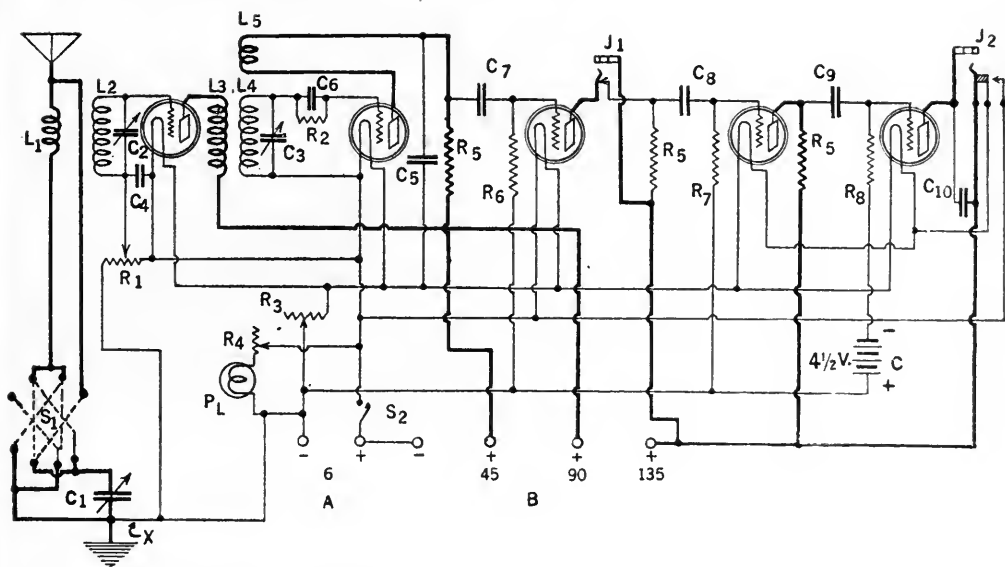

FIG. 1
**T**HE circuit is diagrammed in Fig. 1. The coils  $L$  are all honeycombs.  $L_1$  is the antenna primary, and  $L_2$  secondary inputting to the r. f. tube.  $L_3$  functions as the primary of the radio-frequency transformer.  $L_4$  is the r. f. secondary in the grid circuit of the detector tube, and  $L_5$  is the tickler coil. It will be observed that the circuit is merely the conventional three-coil arrangement with the addition of a stage of tuned radio frequency
THE circuit diagram, Fig. 1, represents the following parts used in the construction of the receiver:
Selectivity will be increased as coupling is loosened between  $L_3$  and  $L_4$ , as is usual with honeycomb receivers. Loosening this coupling will also increase the effectiveness of the r. f. controls. If situated within a mile or so of a high powered station, interfering oscillations may force themselves across the radio-frequency circuits. Breaking the connection close to the ground lead at X, Fig. 1 will eliminate such by-passed interference.